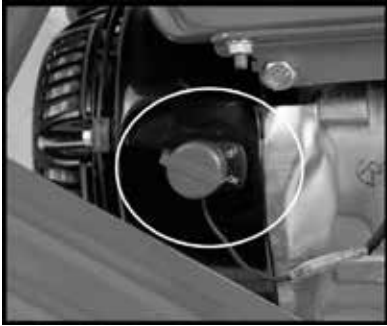

Fig. 1 - Power switch
6. Check that the engine switch is in the ON position (fig. 1).